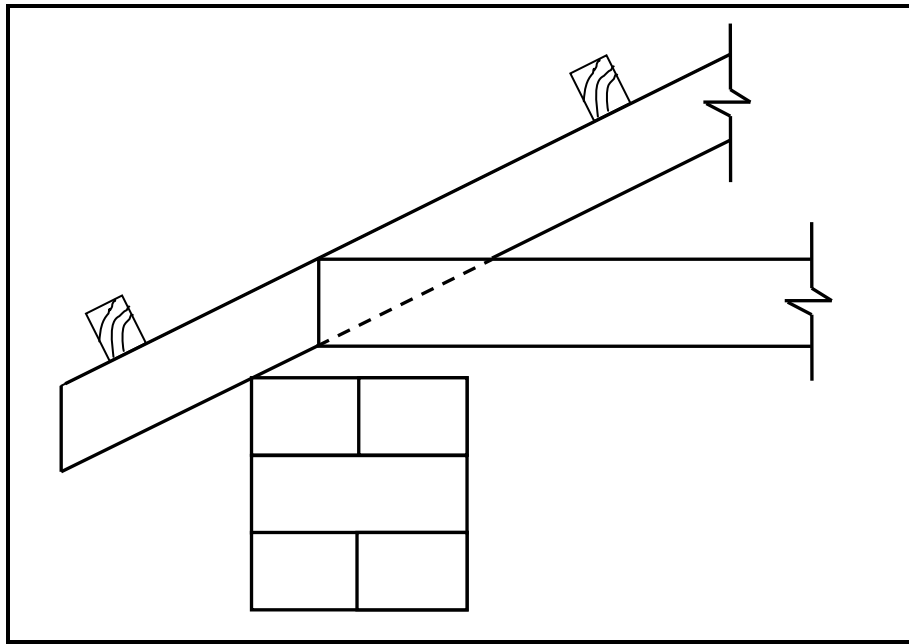

FIGURE 1.3
- 1.3 FIGURE 1.3 below shows an incomplete sectional view of a wall and roof construction.